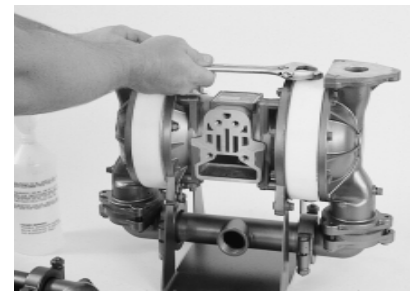

Fig. 2 Tighten the boss plug.
6. When the driver fluid rises to the top of the fill plug hole, screw the boss plug, with o-ring installed, into the chamber. (Do not overtighten.) (Fig. 2) Remember to keep pressure on the Teflon diaphragm until the boss plug is tight to prevent air from drawing back into the chamber.